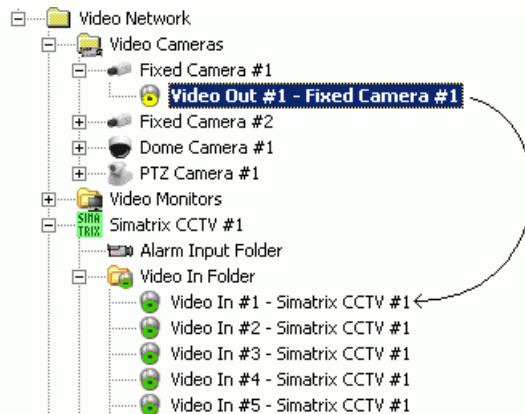

Fig 15 Connecting cameras to SIMATRIX
5. Drag and drop the **Video Out** signal to the SIMATRIX **Video In** node (Fig 15).